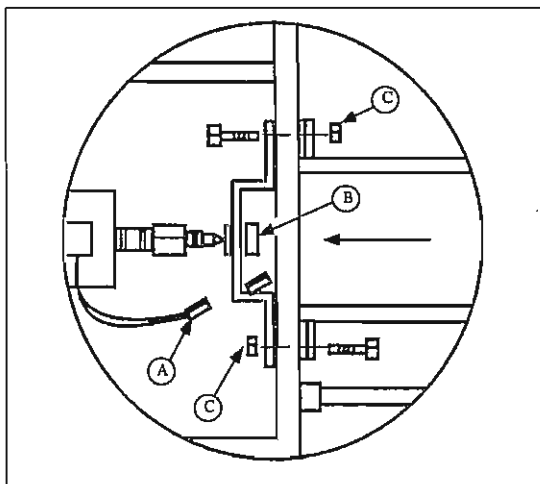

Figure 4-2
3. Unplug wire (A) at the glo-bar. Remove nut (B) and slide control assembly back. Unscrew bolts (C) fastening the orifice bracket to the control box, and pull out burner housing from tube (see Figure 4-2). Pull burner housing off fixed bolts, rotate counterclockwise ¼ turn and remove.